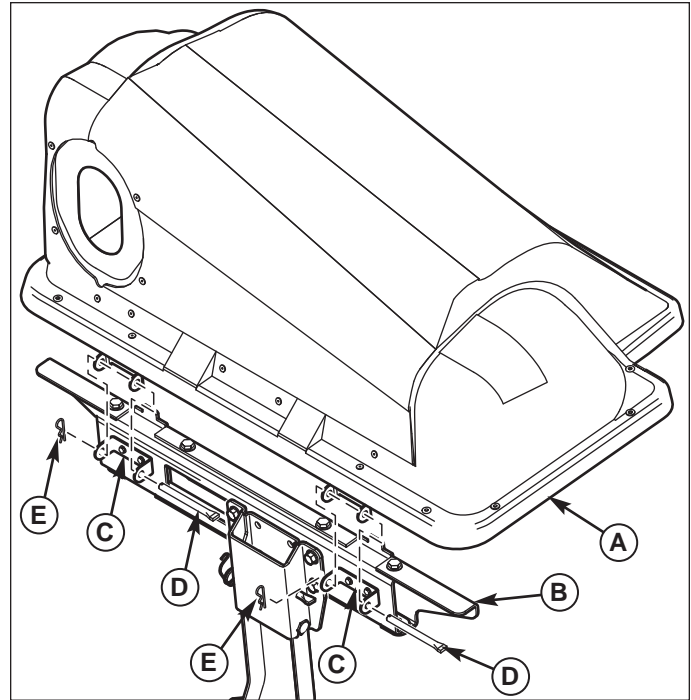

Figure 6. Cover Installation
1. Attach cover assembly (A, Figure 6) to bag support bracket (B) using cover hinge pivots (C). Secure cover assembly to bag support bracket using hinge pins (D) and retainer springs (E) as shown.